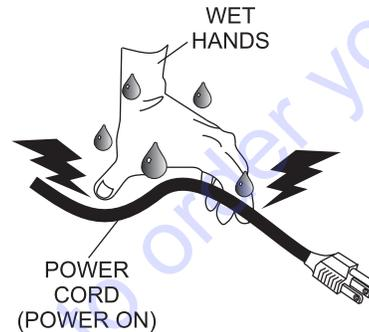

Figure 11. Voltage Selector Switch
**NEVER** grab or touch a live power cord (Figure 11) with wet hands, the possibility exists of electrical shock, electrocution, and even **death!**